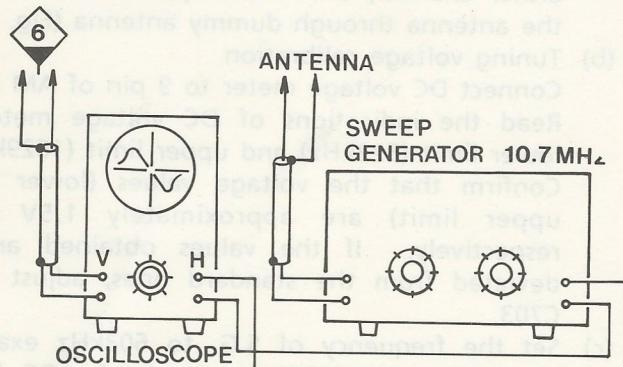

Fig. 6
- (a) Connect the output of sweep generator to the antenna, and the vertical input of oscilloscope to the TP6. (Refer to Fig. 6)